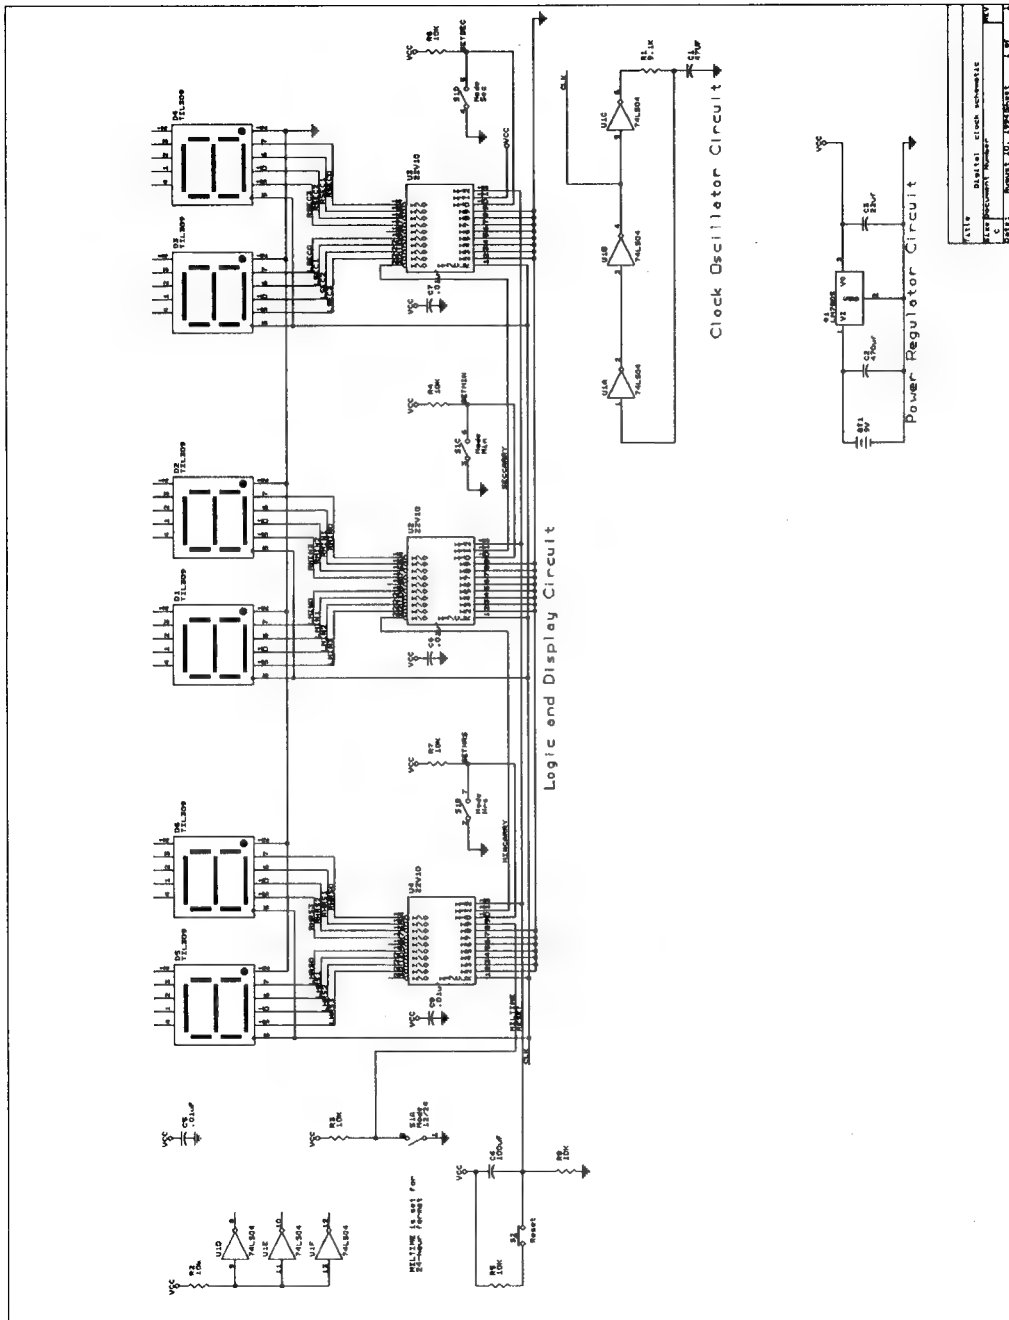

Figure 6-7. Completed TUTOR.SCH schematic.
Figure 6-7 shows how the schematic will look when you complete the remaining steps in this chapter.
Compare the schematic in figure 6-7 with the schematic you have captured so far. Notice that you need to add a few parts and draw a few more wires to have a functional circuit. You also need to edit the labels and other text.
4. Using the same procedure as in steps 2 and 3, assign the values shown in figure 6-7 to the all parts on the schematic. Table 6-1 gives a list of the values to edit (you have already edited the first item in this table). Notice that some of the parts require that you enter information into the **1st Part Field**.
The clock signal from the clock oscillator circuit is now logically connected to the wire to which you attached the CLK label (figure 6-7).
4. The "Label?" prompt returns each time you place a label. Label the following wires: MILTIME, RESET, SETHRS, MINCARRY, SETMIN, SECCARRY, and SETSEC. Refer to figure 6-7 for the location of these wires. Press <Esc> to dismiss the "Label?" prompt.
7. See figure 6-7 and place labels for the remaining TIL309s (LMIN $n$  and LSEC $n$ ) by repeating steps 1 through 5.
5. Move the pointer to the bottom wire for the right hours display, and place the label as shown in figure 6-7.
8. See figure 6-7 and place labels for the remaining right displays (RMIN $n$  and RSEC $n$ ) by repeating steps 3 through 7.
7. See figure 6-7 and place the text to the left of the 12/24 switch, at approximately (0.80, 6.10).